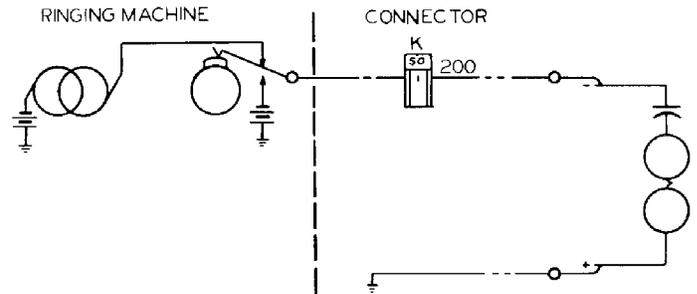

Figure 18. Battery-connected generator
A rectifier in series with relay J winding #1 (figure 11) prevents operation of relay J if wiper C passes over a busy message-rate line with a meter being operated by booster battery (see Linefinder bulletin 821 -- page 14 §4.41 and figure 18, if you have the May 1955 edition).
4.7 Ringing called party. When relay J operates (§4.3 or §4.5), it operates its wiper-closing slave, relay H, which grounds lead R.M.St. to start the ringing machine (figure 20), and (figure 18) connects the Gen. & Bat. lead (thru relay F) to the -line and the Gen. Grd. return lead to the +line.
A capacitor in series with the called party's ringer (figure 18) if an individual line, or a capacitor in series with the P.B.X. trunk-circuit ring-up relay prevents battery direct current from flowing thru relay F, and relay F, being slow to operate, cannot be operated by brief spurts of half-cycles of alternating ringing current.
Figure 18 illustrates the battery-connected method. With this arrangement a high-resistance ground might cause the ring cut-off relay to operate, but, since this method is used with cabled lines common in urban areas, such a condition is not likely to exist. Note that the resistor is eliminated, the generator is connected in series with the battery and the ringing cut-off relay between ground and one side of the line, and the other side of the line is grounded. Ringing cut-off relay inductance helps filter higher frequency harmonics and other ringing-machine electrical disturbances so they tend to be kept out of the cable. This helps keep the cable quiet.